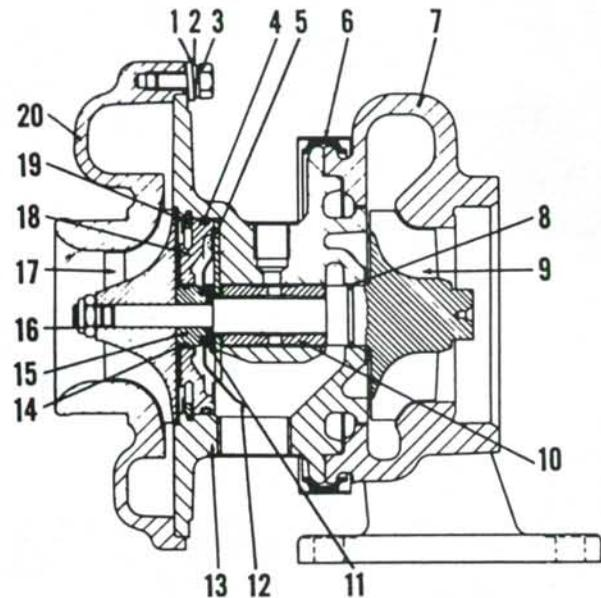

Fig. 102—Sectional view of Holset turbocharger showing component parts and their relative positions.
**128. OVERHAUL HOLSET TURBOCHARGER.** Remove turbocharger unit as outlined in paragraph 126. Mark compressor cover, center housing, turbine housing and clamp positions for reassembly. Remove clamp (6—Fig. 102) and lift core from turbine housing (7). Remove screws (3), then separate from compressor cover (20). Clamp a 5/8 inch 12-point wrench in vise, locate hub of turbine wheel (9) in wrench and remove nut (16). Carefully slide compressor wheel (17) from shaft. Turbine wheel and shaft (9) and bearing (10) can be removed from housing. Use snap ring pliers to remove large retaining ring (19), then pry insert (18) from housing bore. Remainder of parts can be lifted out. Oil deflector (12) and thrust plate (5) are located by two groove pins which should not be removed.
Use care to not overexpand ring (8—Fig. 102) when installing in groove. Lubricate turbine shaft (9) and ring (8), then assemble in bore of housing (13). Lubricate bearing (10), then install over turbine shaft and into housing bore. Lubricate thrust plate (5), then install in housing with bronze side up and holes engaging groove pins. Install thrust ring (11) over shaft and onto thrust plate, then position oil deflector over shaft and groove pins. Install ring (14) in groove of spacer sleeve (15), lubricate parts and slide spacer sleeve into bore of insert (18). Install "O" ring (4) in groove, lubricate outside diameter, then slide insert (18) with spacer sleeve (15) and "O" ring installed into bore of housing.